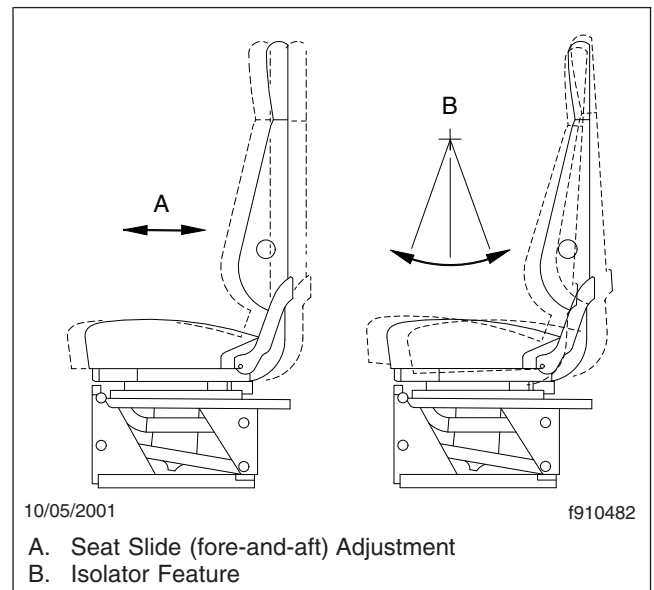

Fig. 5.6, Seat Slide Adjustment and Isolator Feature
1. **Seat Slide (fore-and-aft):** When this adjustment is made, the entire seat moves forward or backward on its track (**Fig. 5.6**).
2. **Isolator:** This feature (also referred to as backslap isolator or Chugger-Snubber®) reduces the amount of road shock by isolating the occupant from the motion of the vehicle, and allowing the upper seat to move in a simple pendulum motion. Whenever the isolator is not desired, it can be locked out (**Fig. 5.6**).